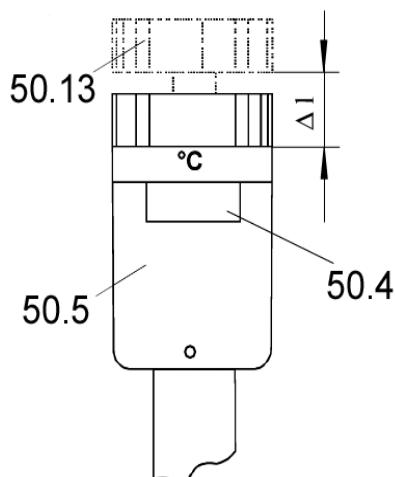

Fig. 4: Excess temperature indicator
- The temperature setting is done through turning the setting ring (pos. 50.13). The body (pos. 50.5) must be held fast; it is not allowed to turn.
This can be seen when the setting ring (pos. 50.13) has moved upwards from the body (Fig. 4) (pos. 50.5). In this case, the temperature regulation must be waited for, before further alterations are done. Excess responses from the indicator shortens the lifetime from the thermal controller!